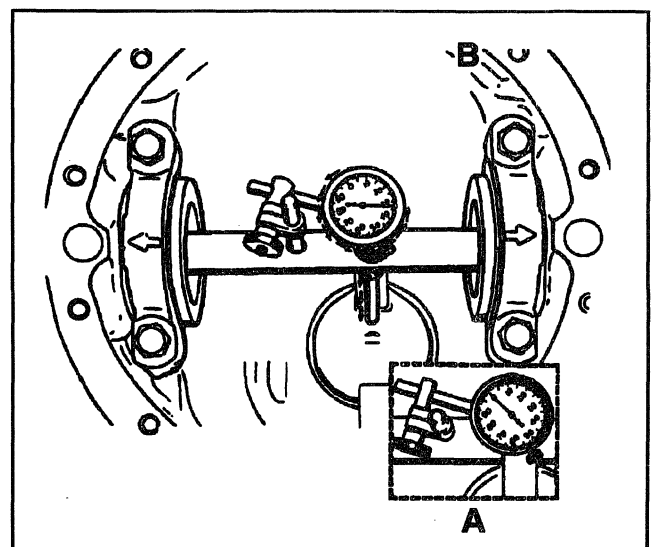

Figure 14—Checking Pinion Depth
15. Rotate the gage shaft until the dial indicator rod does not touch the gage block. 16 Record the actual number on the dial indicator and not the number which represents how far the needle travels. This is the nominal pinion setting. EXAMPLE: The indicator needle moved counter clockwise 1.70 mm (0.067 inch) to a dial reading of 0.84 mm (0.033 inch) (Figure 14). Record the dial reading of 0.84 mm (0.033 inch), NOT 1.70 mm (0.067 inch).